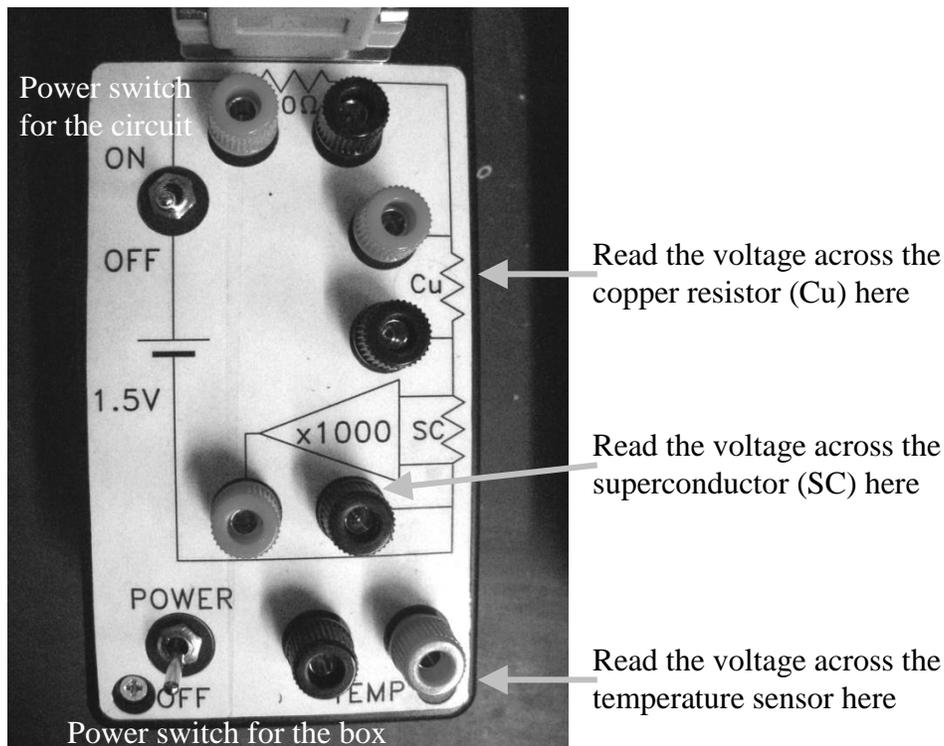

Figure 2. The circuit box.
- Study the circuit diagram in Figure 2. A 1.5 V battery inside the circuit box supplies power in the circuit. There are three resistors in series with the battery. The copper resistor (“Cu”) and the superconductor (“SC”) are located on the probe, and the 10Ω resistor is inside the box. The wires from the probe enter this box and terminate at the black and red sockets where voltage across the copper resistor and the superconductor can easily be measured. The voltage drop across the superconductor is very small. Therefore, it is amplified by a factor of 1000 inside the box to bring it into a range the voltmeter is able to measure.